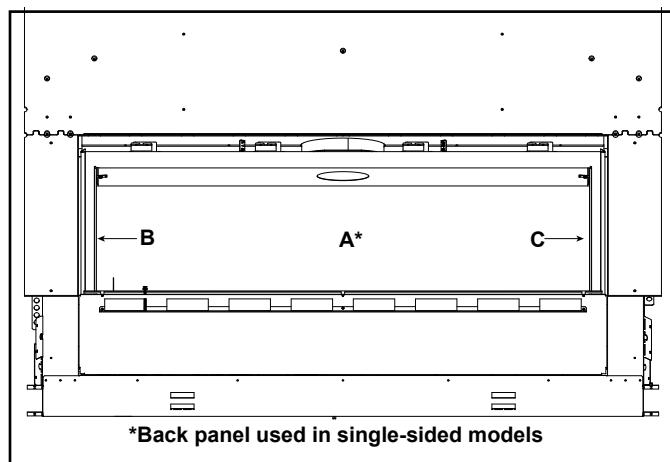

Figure 11.4 Placement of Glass Panels
1. Set back glass panel, labeled A in Figure 11.4, into firebox on top of the two (2) spacer blocks with the smooth side of the glass facing outward. Position retaining bracket inside appliance as shown in Figure 11.6. Line up the hole in the heat shield with the hole closest to the bend in the bracket and secure in place with a screw. See Figure 11.5 and Figure 11.6.
4. Install the left side panel, labeled "B" in Figure 11.4, by sliding it into place from the front. While installing, press the panel firmly against the firebox side.
1. Set left side glass panel, labeled B in Figure 11.4, into firebox with the smooth side facing outward.